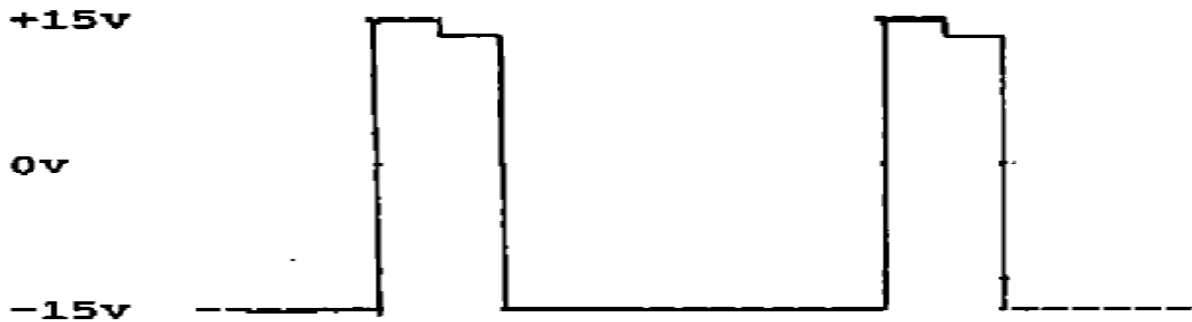

Figure 2
c. Observe figure2 on SC4 at $\approx 1.2\text{kHz}$.